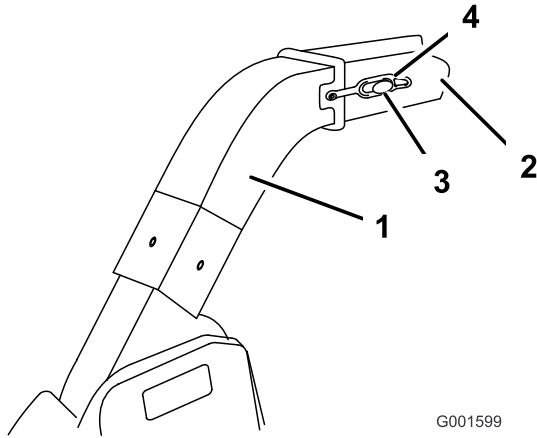

Figure 19
tube into the blower discharge extension opening (Figure 19).
- Hook the rubber latch onto the knob (Figure 19).